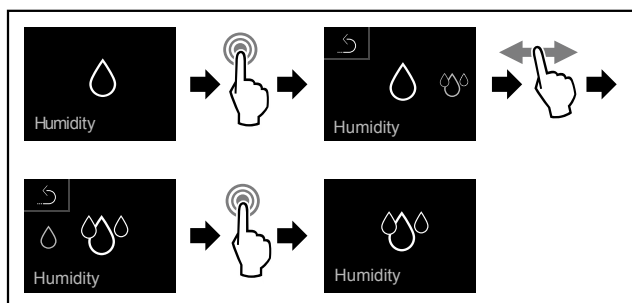

Fig. 69
- ▶ Complete the steps (see Fig. 69).